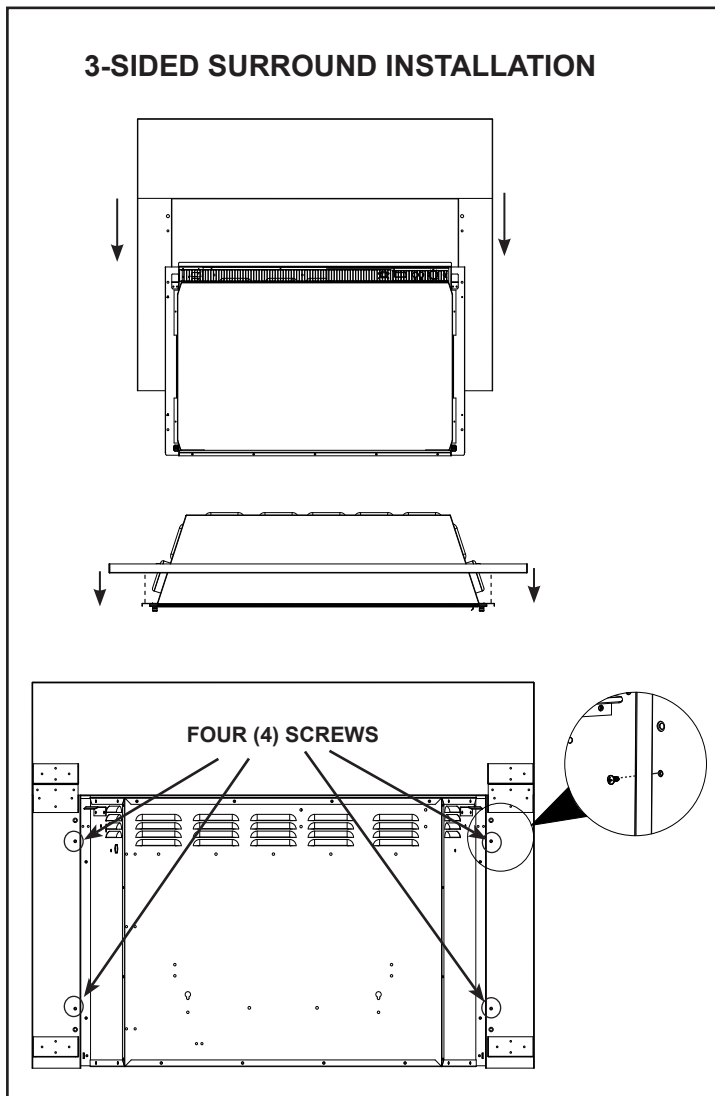

Figure 4.3 3-Sided Surround Installation
2. Slide the assembled 3-sided surround over the top of the appliance behind the appliance side flanges. See Figure 4.3
3. Secure the surround to the appliance side flanges in four (4) locations with the ST4X8 screws provided with the surround. The screws will be installed from the rear of the appliance. See Figure 4.3.